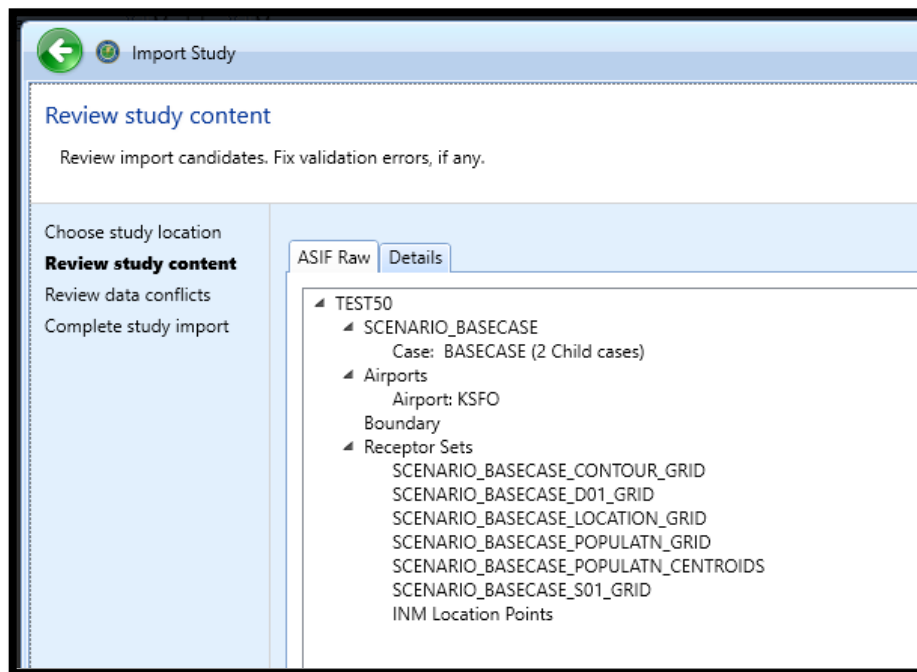

Figure 61. Review study content – ASIF Raw tab
- If the message does not appear, the *ASIF Raw* tab will display a summary view of the study (Figure 61).